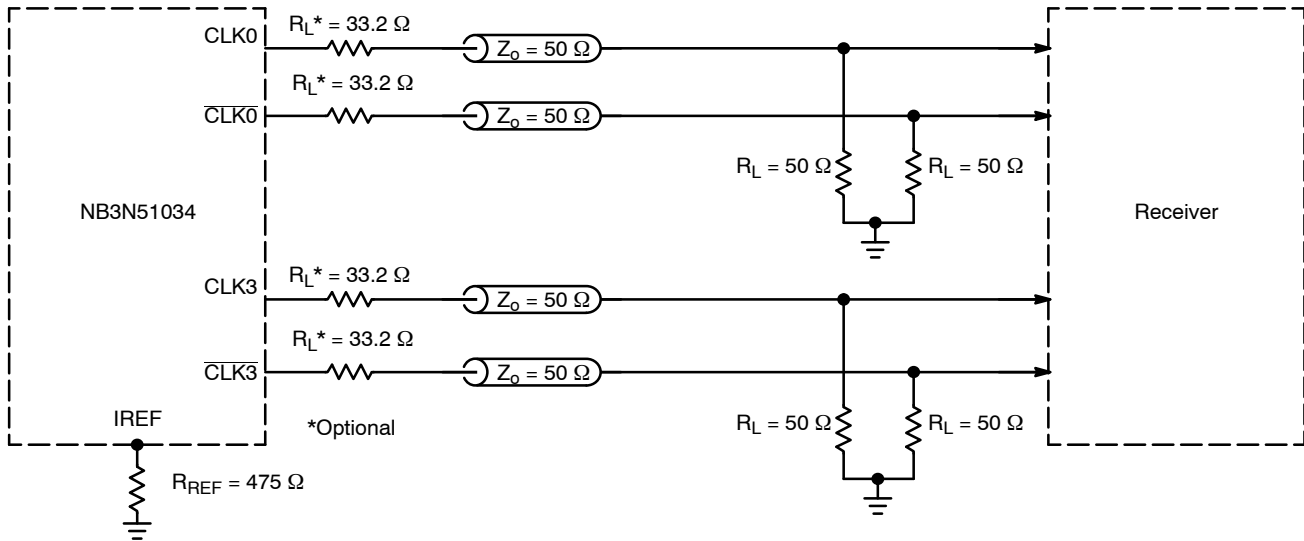
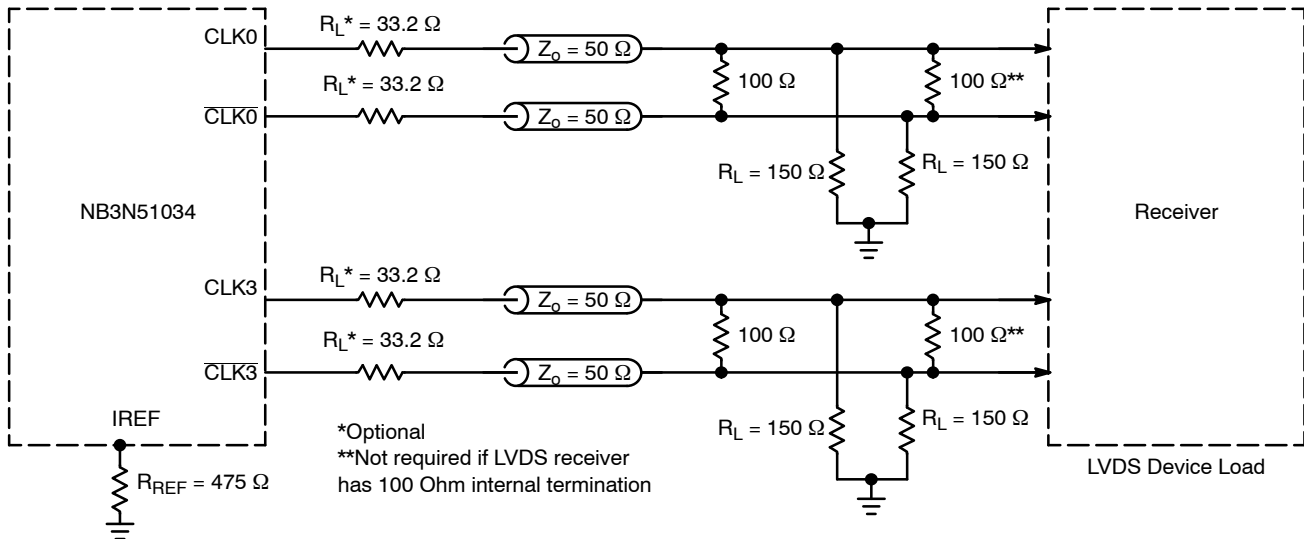

Figure 7. Typical Termination for HCSL Output Driver and Device Evaluation
Figure 8. Typical Termination for LVDS Device Load
- VDDXD and VDDODA power pins must be shorted to power supply voltage V_{DD} and GNDXD and GNDODA ground pins must be shorted to power supply ground GND. Measurement taken with outputs terminated with R_S = 33.2 Ω, R_L = 50 Ω, with test load capacitance of 2 pF and current biasing resistor set at 475 Ω. See Figure 7. Guaranteed by characterization.
12. VDDXD and VDDODA power pins must be shorted to power supply voltage V_{DD} and GNDXD and GNDODA ground pins must be shorted to power supply ground GND. Measurement taken from differential output on single-ended channel terminated with $R_S = 33.2\ \Omega$, $R_L = 50\ \Omega$, with test load capacitance of 2 pF and current biasing resistor set at 475 Ω . See Figure 7. Guaranteed by characterization.
19. VDDXD and VDDODA power pins must be shorted to power supply voltage V_{DD} and GNDXD and GNDODA ground pins must be shorted to power supply ground GND. Measurement taken from differential output on single-ended channel terminated with R_S = 33.2 Ω, R_L = 50 Ω, with test load capacitance of 2 pF and current biasing resistor set at 475 Ω. See Figure 7. This parameter is guaranteed by characterization. Not tested in production.
The outputs can be terminated to drive HCSL receiver (see Figure 7) or LVDS receiver (see Figure 8). HCSL output interface requires 49.9 Ω termination resistors to GND for generating the output levels. LVDS output interface may not